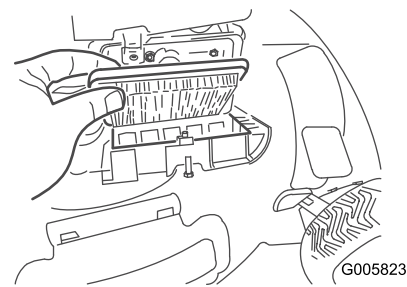

Figure 22
- Use a screw driver to open the air-filter cover (Figure 22).